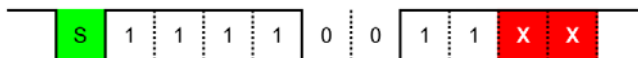

Figure 3
For review, a serial byte will have a start bit, eight data bits, and one or more stop bits; in DMX512-A each byte has two stop bits. Figure 3 shows the signal going into the DMX RX pin of the Propeller: the idle state of the line is high, a start bit is low (0), the data bits arrive LSB first and are read directly from the line, and the stop bits are at the line's idle state (1). The value in the diagram is \$CF.